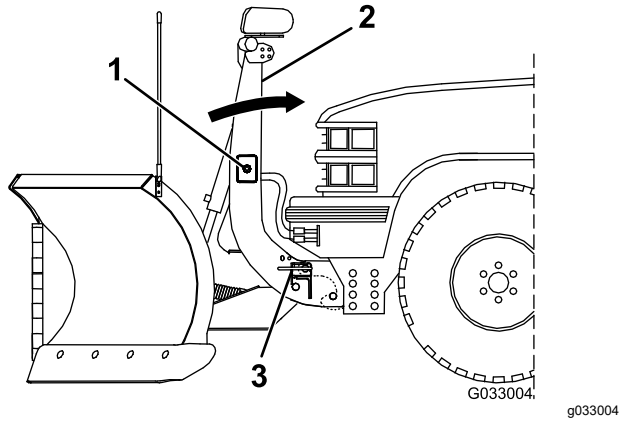

Figure 22
- Push the SmartHitch2 switch on the side of the coupler tower upward and raise the tower until the coupler spring pins snap in (Figure 22).